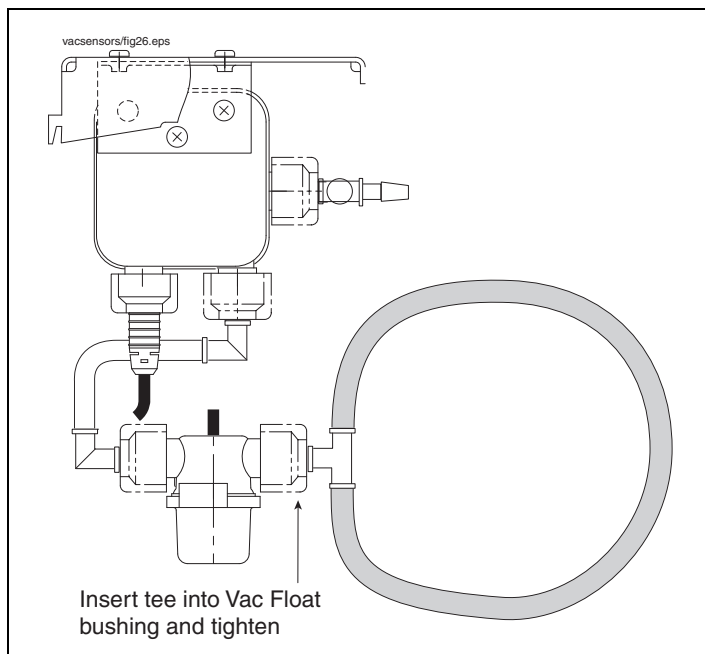

Figure 4-5.- Isolating Vac Float for Leak Test
4. Insert the open end of the test loop's tee into the Vac Float bushing and then tighten the bushing (see Figure 4-5).